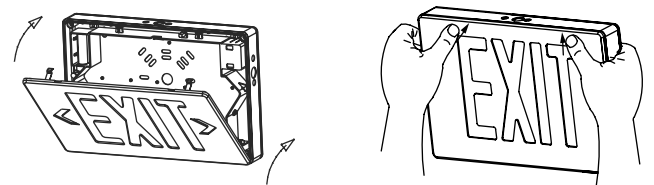

Figure 7 - Replace Faceplate
- Secure canopy to the housing using hole numbers "2" and "3" on the canopy with provided canopy screws : (2) #10-24 screws.
- Snap EXIT faceplate(s) onto the housing, bottom first and then top. (See Figure 7)
- Snap EXIT faceplate onto the housing, bottom first and then top. (See figure 7)